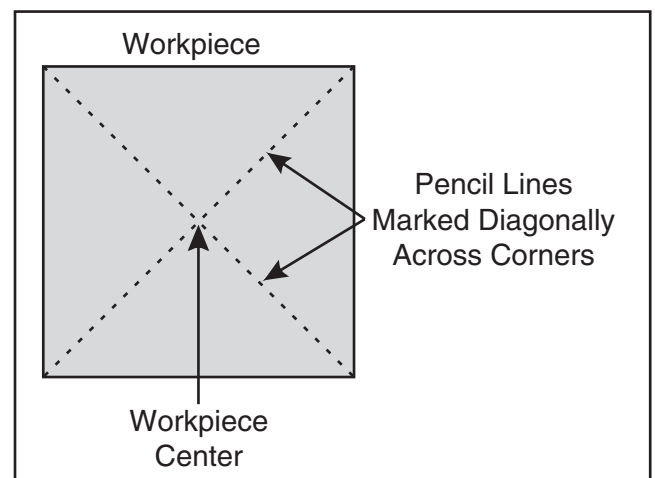

Figure 21. Workpiece marked diagonally from corner to corner to determine the center.
1. Mark both ends of your workpiece by drawing diagonal lines from corner to corner. The intersection point of these lines will show you the center of your workpiece. See **Figure 21** for details.